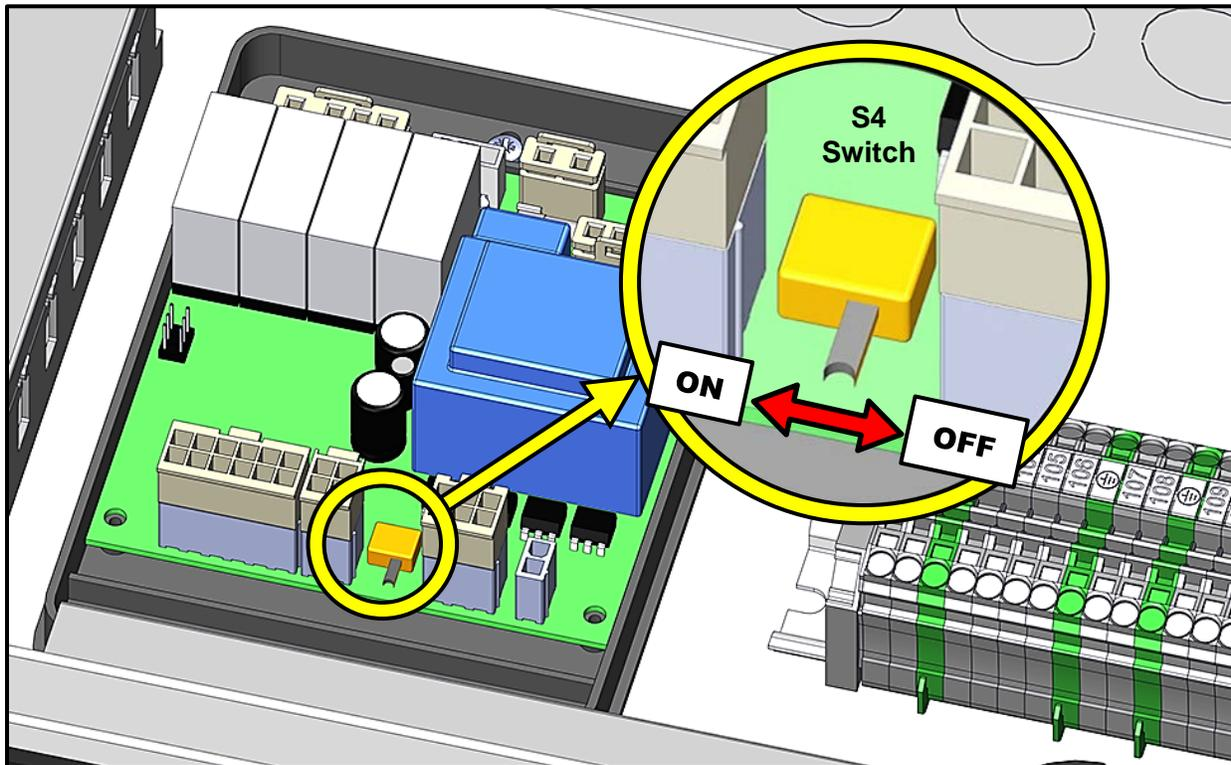

Figure 1-17: Setting Master Heater Communications Board S4 Switch
4. Locate S4 switch at front edge of communications board per Figure 1-17.
9. On the communications board at top of unit, set the S4 Switch (see Figure 1-17) to ON.